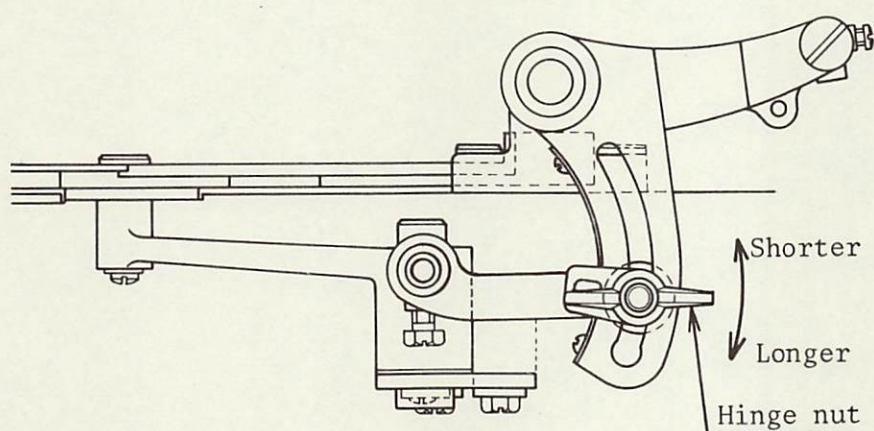

Fig.49
- \* If the hinge nut is loosened and raised up, the bartacking length will become shorter and if it's lowered down, it will become longer. (Fig.49)